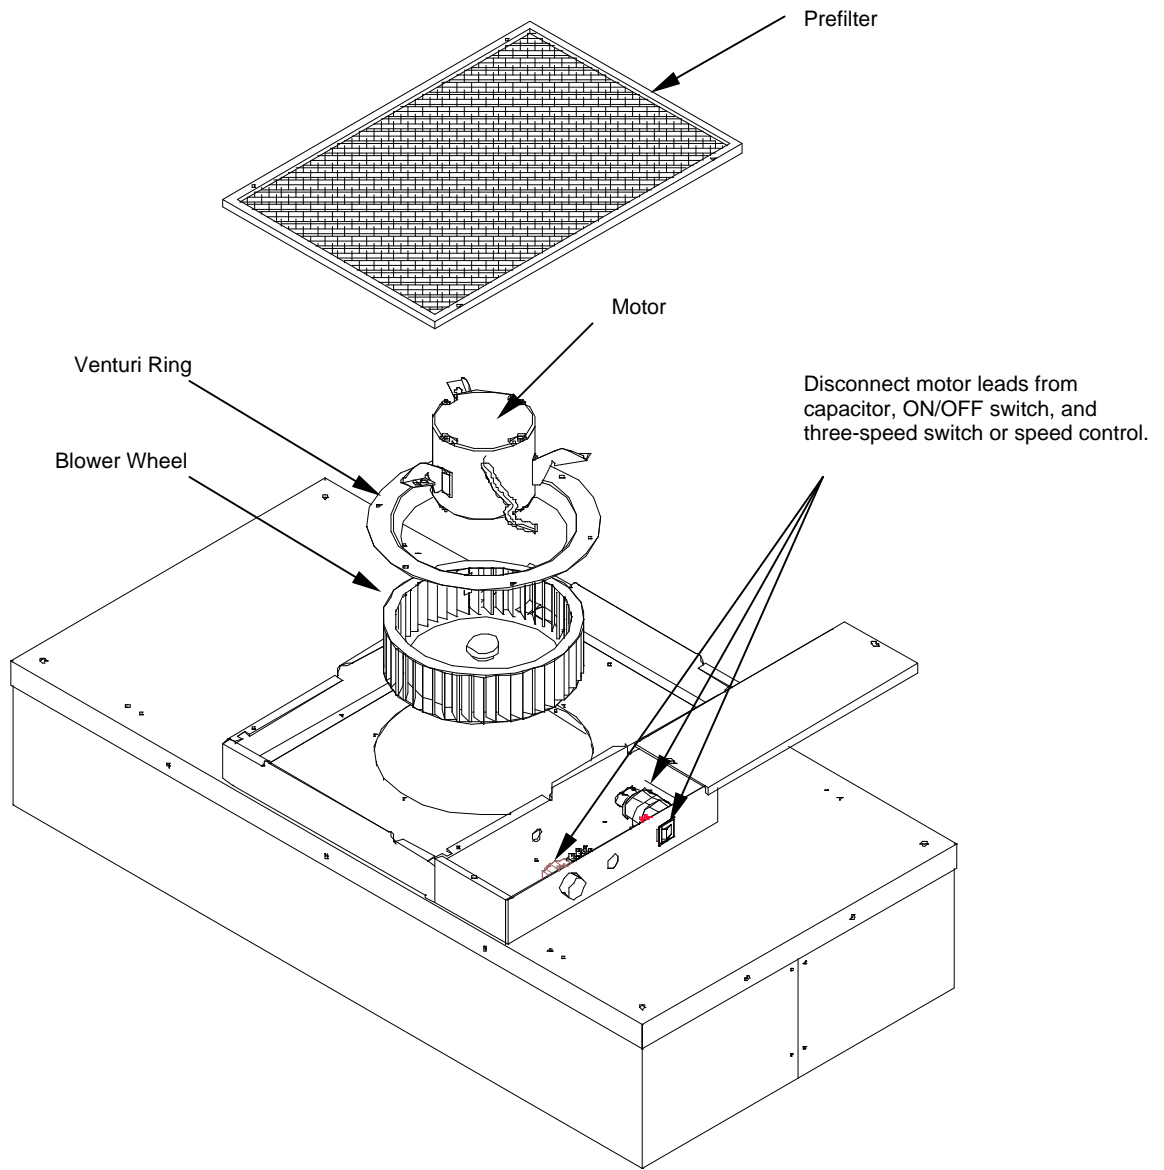

Figure 6 – Motor Replacement
- Step 8.** Remove the six screws to free the venturi ring and remove the motor/blower assembly from the lid assembly. If using power drivers, set the unit to a low torque setting to avoid stripping the sheet metal screws. (See Figure 6)